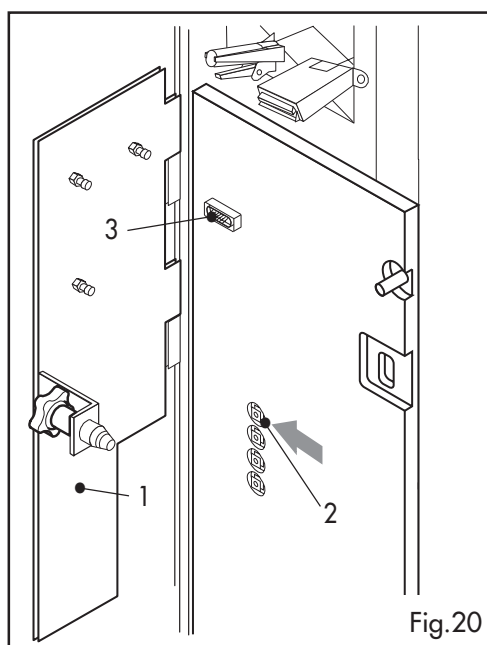

Fig.20
- Open the coin cover ref. 1 (Fig. 20).
- Push the button ref. 2 (Fig. 20) until the machine begins to dispense water from all dispensing tubes.
- Both the machine and the PC must be off. Connect the PC to the machine using a 3-wire (inverted) serial connection cable fitted with a 9-pin connector. Insert the cable to the serial port ref. 3 (Fig. 20). First turn on the machine and then the PC. The connection will be activated and the data exchange will take place in real time.